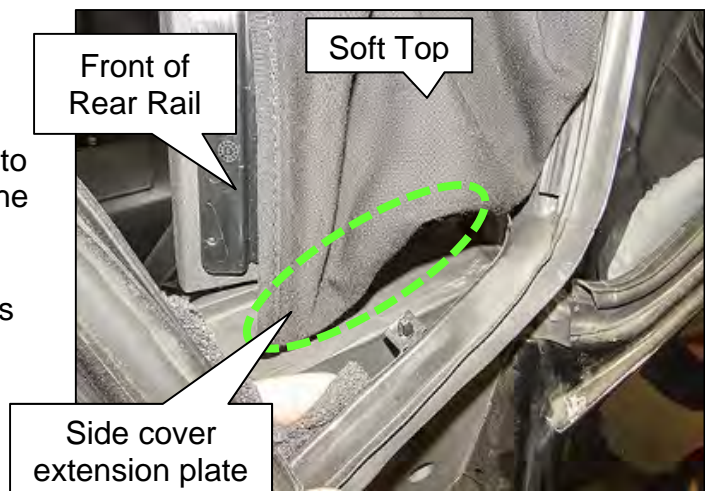

Figure 64
- The side cover extension plate is hidden by the Soft Top in Figure 64.